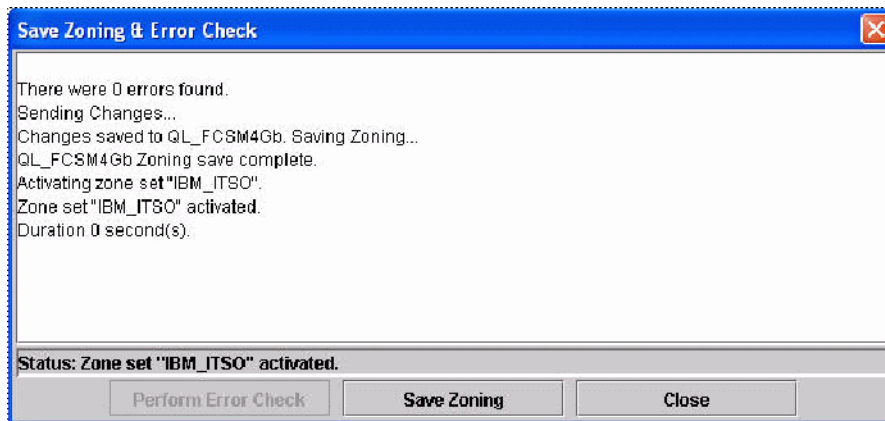

Figure 7-62 Save Zoning & Error Check window
22. Click the **Close** button to complete your Zoning save (Figure 7-62).